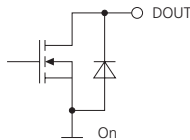

Fig. 7 Open drain output
The DLS-C(H)/FLS-C(H) contain two digital outputs for level monitoring (DO 1 and DO 2) and one digital output for error signalization (DO E). These outputs are open drain outputs as shown in figure 7 and can drive up to 200mA. Maximum switching voltage is 30V DC. In the ON state, the FET transistor is electro conductive.